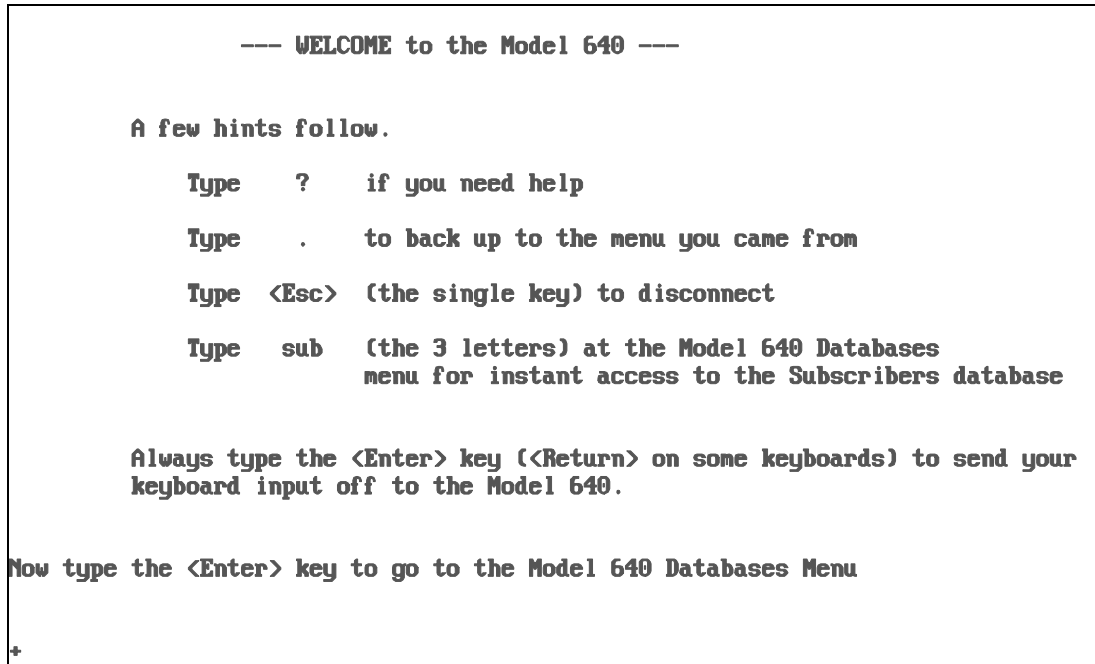

Figure 15. Introductory ZLINK Screen
- ❑ 14. Once a communications link has been established, the introductory screen shown in Figure 15 appears.